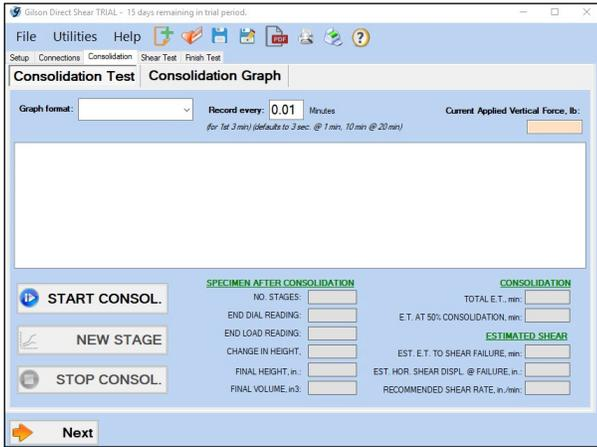

Figure 9: Consolidation Tab
5. In the **Consolidation** tab (Figure 9), select the graphing format from the dropdown menu. The graph can be displayed in linear time, log time, or the square root of time. The recording frequency defaults to 0.01 minutes for the first 3 minutes of testing but can be adjusted by entering a different value in the recording frequency field.